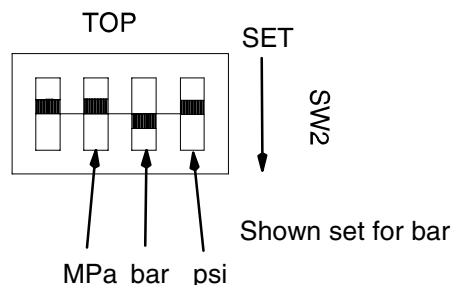

Fig. 6
4. Set switches on back of display (49) as desired, Fig. 6.